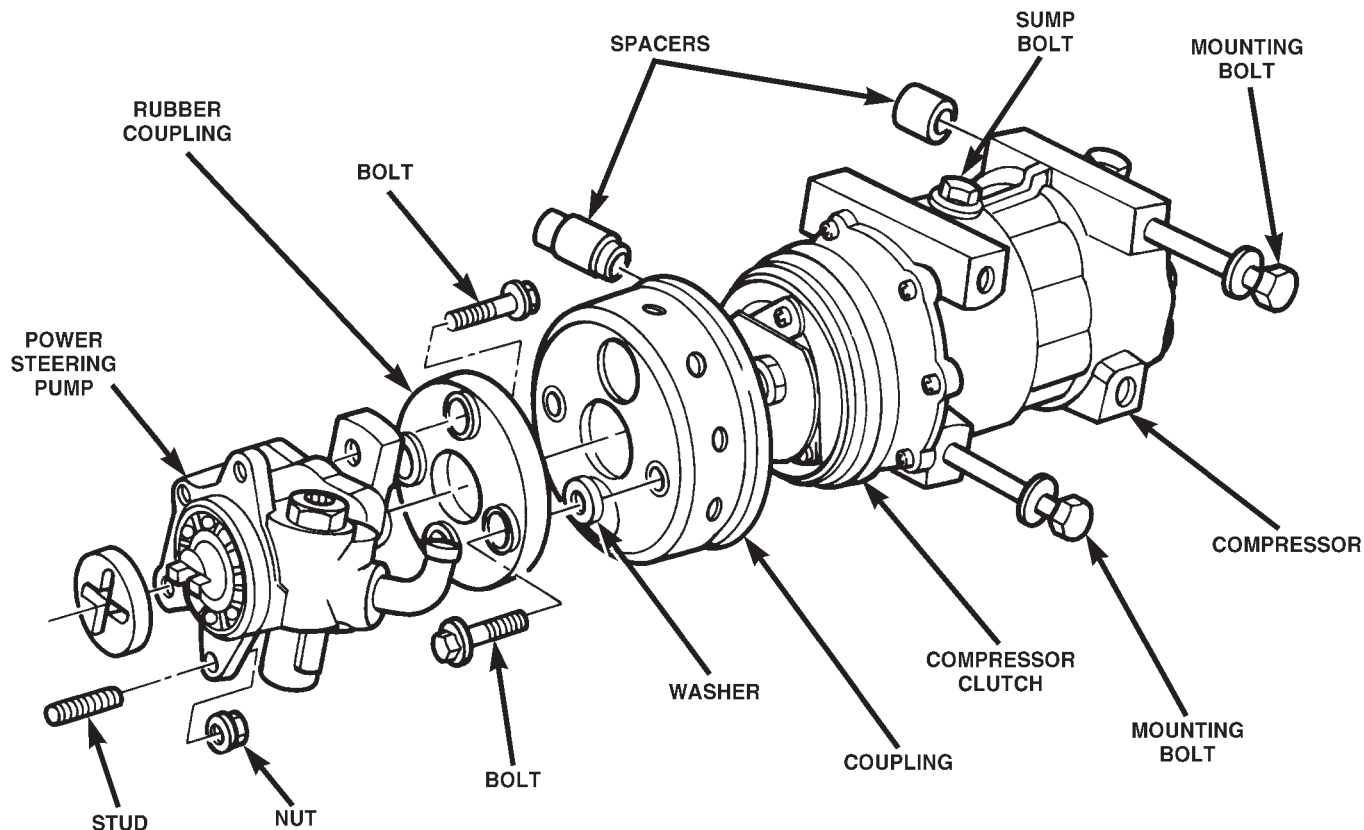

Fig. 20 Compressor Components (2.5L Turbo Diesel)
- (5) Remove flex drive bolts from behind the power steering pump (Fig. 20).
- (6) Remove compressor mounting bolts (Fig. 20).
- (7) pry compressor off of the dowel pins and remove compressor.